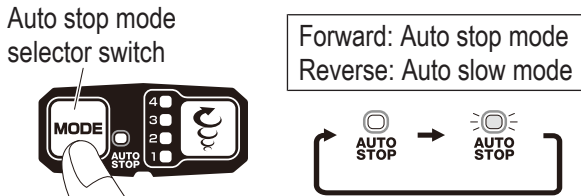

Fig. 21
- (2) Auto stop mode selector switch (**Fig. 21**)